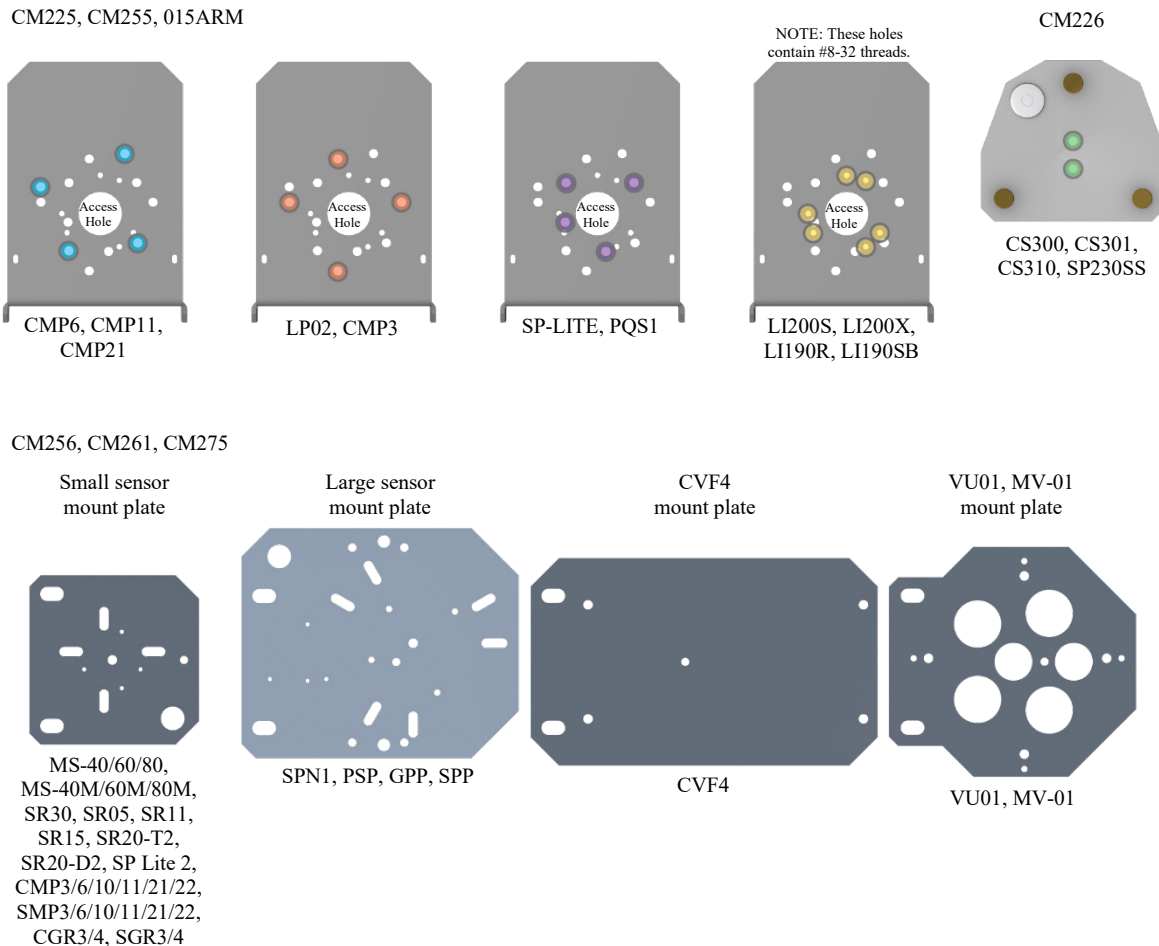

FIGURE 6-2. Mounting plates with compatible sensors
2. Secure the solar radiation sensor to the mounting bracket. Refer to FIGURE 6-2 to determine which mounting holes are used by the sensor. Visually inspect the leveling feet on the sensor (if present) to ensure all feet are in contact with the mounting bracket.